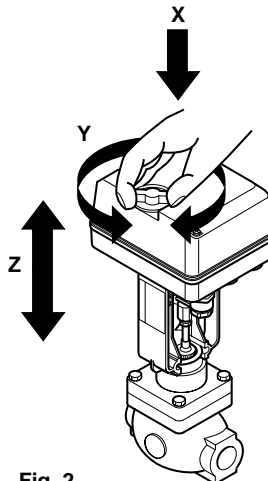

Fig. 2
Depressing the handwheel (X) and turning in the desired direction (Y) will move the stem (Z) (see Fig. 2 below).